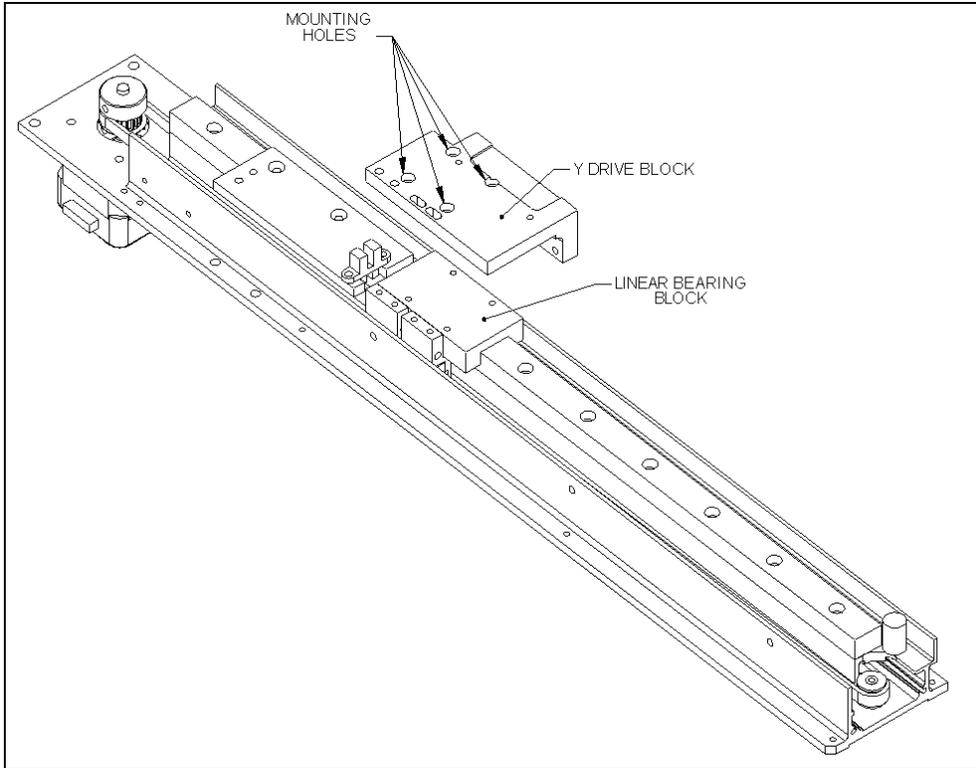

Figure 7-45 Y-Drive Block Design
- 2 Mount the Y-drive block (Part No. 204003200) to the linear bearing block using four M3 x 6mm-cap head screws and Loctite 222 (Figure 7-45). Ensure the Y-Drive block lip is flush with the linear slide as well as the side facing the motor.